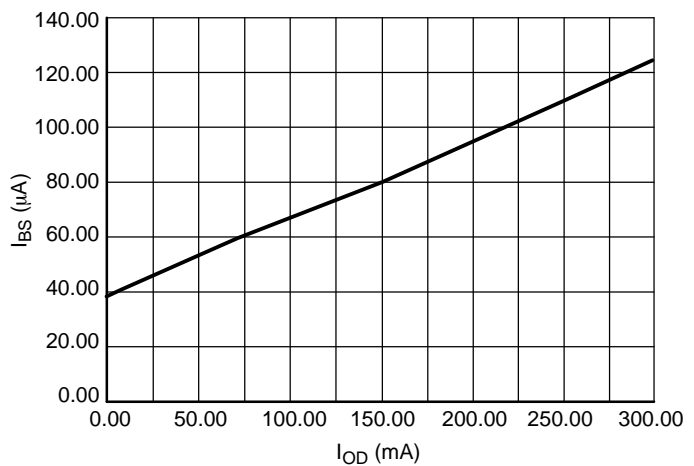

Figure 11. Bias/Set Current – Output Drive Current
a) The maximum output sink current is determined by the base drive current supplied to the lower transistors (QLS of Figure 5) of each output, which in turn, is a function of IBS. The appropriate value of IBS can be approximated using Figure 11.
For example, assume an application where  $V_M = 12$  V, the motor requires 200 mA/coil, operating at room temperature with no heatsink on the IC. From Figure 11,  $I_{BS}$  is determined to be 95  $\mu$ A.